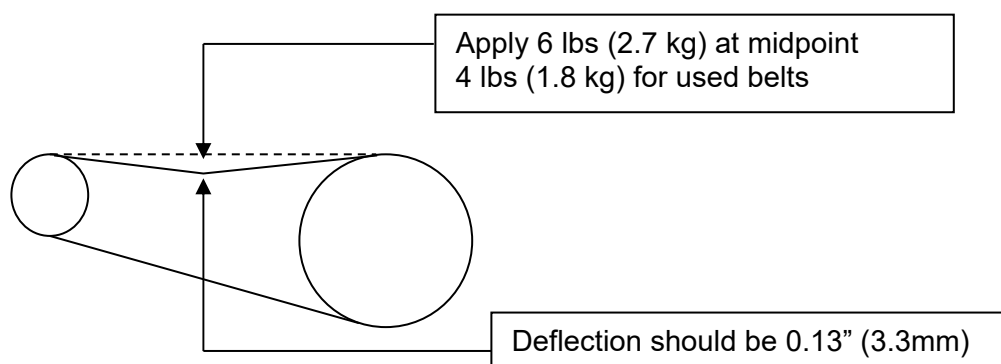

Figure 3: belt tension inspection
- b. Verify proper belt tension as shown in the illustration shown in Figure 3. Below.